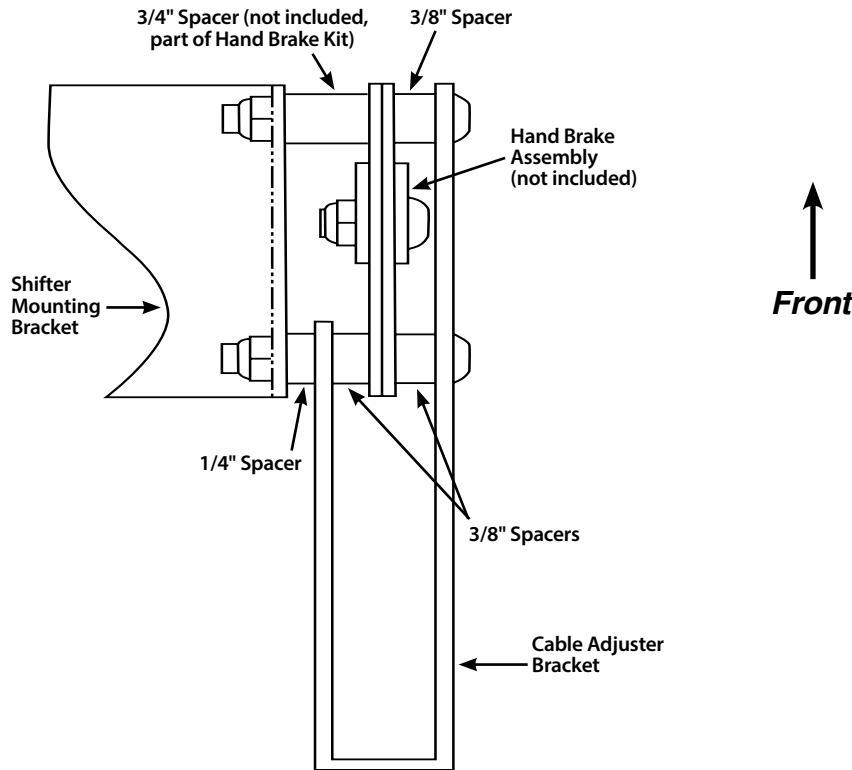

Fig. 5
**Step 3, Trans Mount Hand Brake Only:** The cable adjuster bracket will be installed at the same time as the Lokar Hand Brake assembly. Included in the Emergency Brake Cable Kit there are three 3/8" spacers and one 1/4" spacer to center the Hand Brake in the cable adjuster bracket. On the front mounting bolt, install one 3/8" spacer on the right side between the cable adjuster bracket and the Hand Brake, and one 3/4" spacer (not included, part of the Trans Mount Hand Brake kit) on the left between the Hand Brake and the shifter mount bracket. On the rear mounting bolt, install one 3/8" spacer on the right between the cable adjuster bracket and the Hand Brake; one 3/8" spacer on the left between the Hand Brake and the brake cable bracket; and one 1/4" spacer between the brake cable bracket and the shifter mount bracket. **Fig. 5**